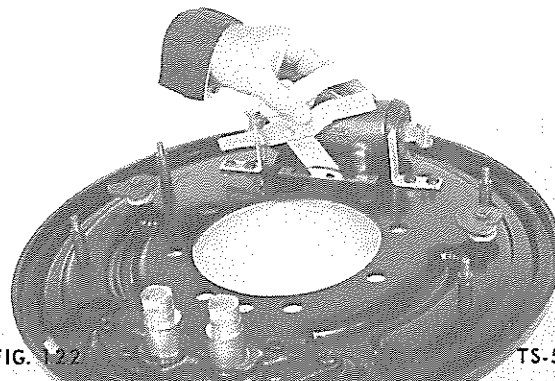

FIG. 122
4. Position one end of brake actuator in one actuator bracket, then slide other end in second bracket (Fig. 122).